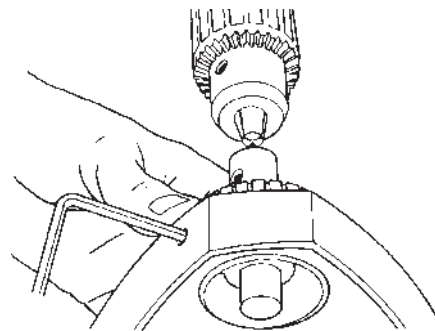

Figure B-117
- a. To adjust the cup center point **horizontally**, loosen the set screws that lock the adjustable center, as seen in Figure B-117. Rotate the adjustable center as needed to line up the cup center with the drill chuck, then tighten the set screw.